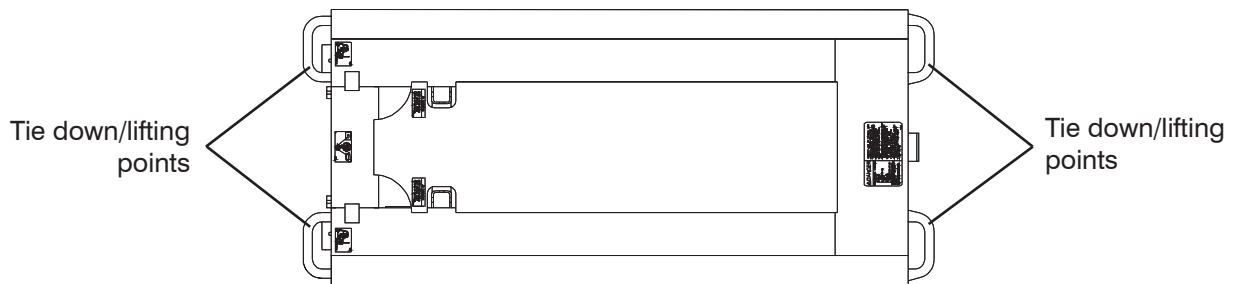

Figure 3-14. Tie Downs/Lifting Points
- The lifting/rigging may be attached to all four lifting points as illustrated in Figure 3-14.
When transporting, the aerial platform must be secured to the truck or trailer deck. Tie downs are available as illustrated in Figure 3-14.